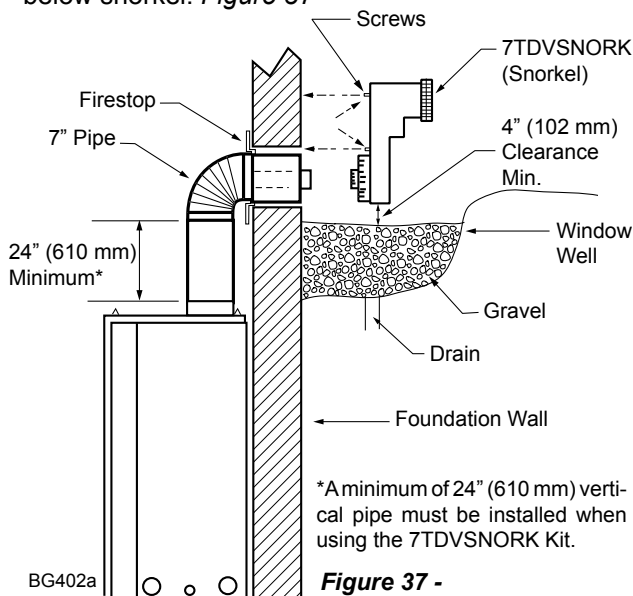

Figure 37 - Below Grade Installation
2. Remove soil to a depth of approximately 16" (406 mm) below base of snorkel. Install drain pipe. Install window well (not supplied). Refill hole with 12" (305 mm) of coarse gravel leaving a clearance of approximately 4" (102 mm) below snorkel. *Figure 37*
7. Level the soil so as to maintain a 4" (102 mm) clearance below snorkel. *Figure 37*